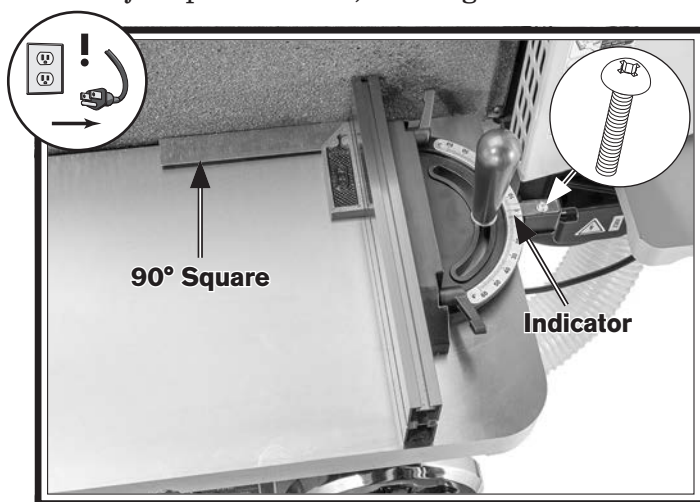

Figure 57. Miter stop calibration components.
5. Set one edge of 90° square against platen and adjust miter gauge angle until the other edge is flat against miter stop fence (see **Figure 57**).
6. Loosen indicator screw (see **Figure 57**), adjust pointer to 0°, then tighten screw.